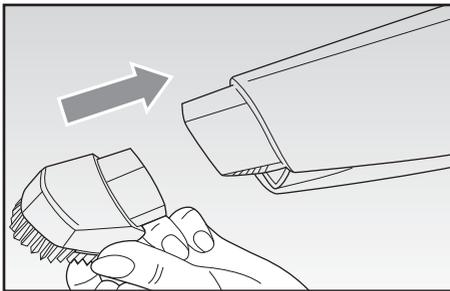
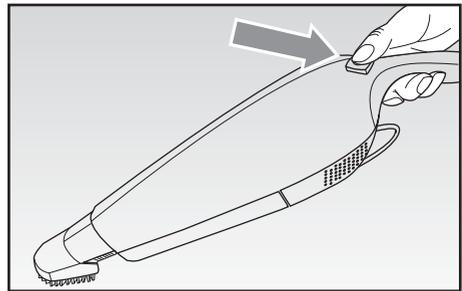

Fig. 8
Fig. 9
- At the end of the dust container (F), apply the required attachment (Fig. 8); press the switching on button (B) to start the appliance by means of the apposite handle (Fig. 9).